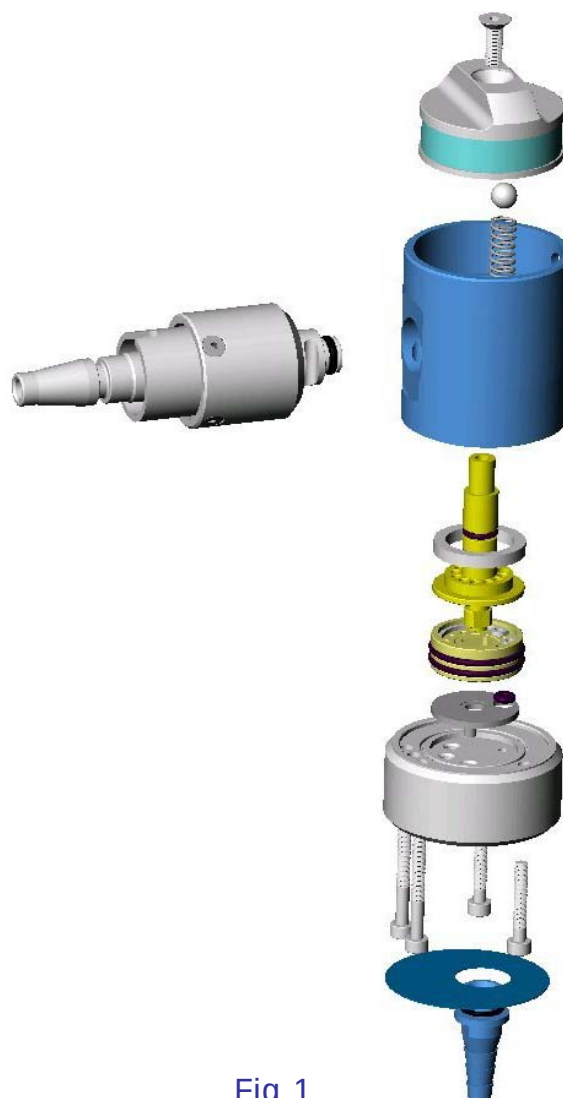

Fig 1
- e) Remove the 4 securing screws (refer fig 1 & 2) using a 2.5 mm AF Allen Key and ease the Flowmeter Output Body away from the Input Body.